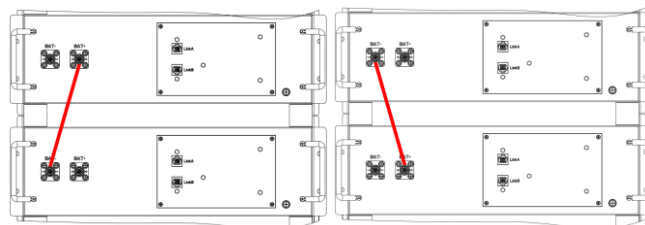

Figure 3.11 Connect the A Power Harness
(1) Holding one A Power Harness (5619100059301), connect the wires from the "Bat+" terminal of the first battery box under the control box to the "Bat-" terminal of the next battery box without error (Figure 3.11).